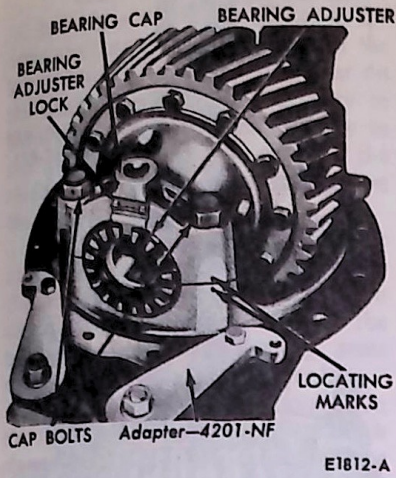

FIG. 10 Differential Carrier Mounted on Stand
1. Mount the differential carrier on a suitable stand. Opposite sides of the carrier should be supported with adapters of the type shown in Fig. 10.
3. Mark one differential bearing cap and the corresponding carrier leg with a punch (Fig. 10). These marks will help to position the parts properly during assembly of the carrier.
13. Place the bearing adjusters on the threads in the carrier legs, and position the bearing caps on the carrier leg with the matching marks (Fig. 10) aligned. Turn the bearing adjusters a few turns to make sure that the threads in the caps and legs are matched.